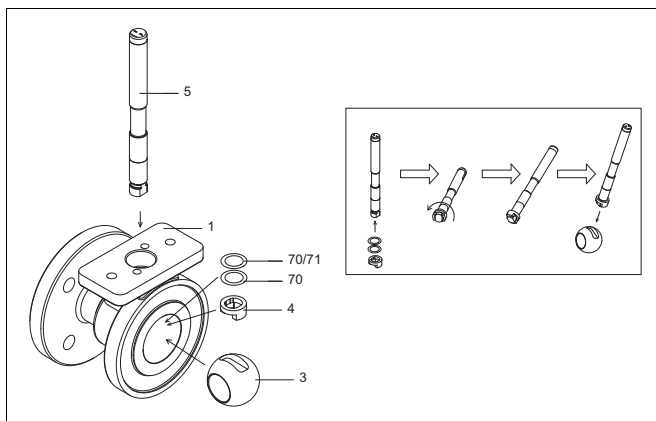

Fig. 25 Assembling the shaft in sizes 1" and 1.5"
- ❑ Place the locking wire (51) in the stem groove (5) in sizes DN 50/2"-DN 200/8". Place the stem partly inside the body from above and place the thrust bearings (70) on the stem from inside the body. Place the thrust bearings against the stem shoulder and place the stem in the valve from inside. Place the spline driver (4, sizes DN 50/2"-DN 200/8") on the shaft spline and lock it with a pin (50). Place the thrust ring (4, sizes DN 25/1"-DN 40/1.5") on the shaft and lock it as illustrated in Fig. 25. Put the ball (3) in its position so that the spline driver / thrust ring (4) is in the ball slot. Screw down the studs (14). Place the support ring (67, sizes DN 50/2"-DN 200/8"), the packing (69), the gland (9) and the retaining plates (42) in their position. Place the nuts (18) on the studs (14) and screw down them gently.